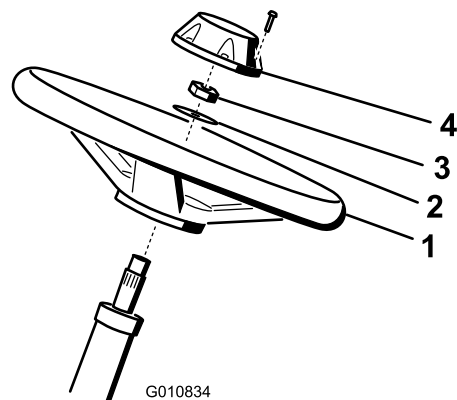

Figure 4
1. Slide the steering wheel onto the steering shaft (Figure 4).
2. Slide the washer onto the steering shaft (Figure 4).
- Secure the steering wheel to the shaft with a jam nut and tighten it to 27 to 35 N-m (20 to 26 ft-lb) (Figure 4).
- Install the cap to the steering wheel and secure it with a screw (Figure 4).